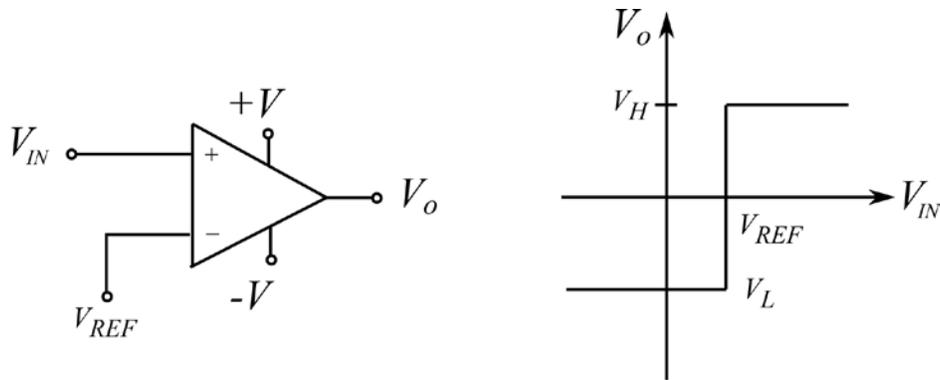

Figure 2: The non-inverting comparator and its transfer characteristic.
A circuit that compares two voltages and indicates which one is larger is extremely useful. This circuit is called a **comparator**, and Figure 2 shows how one can be built using an op-amp. Essentially it is just an op-amp running “open loop” – that is, without any negative feedback. Note that this class of circuit is nonlinear, and different methods are needed for analysis.
1. Breadboard the non-inverting comparator shown in Figure 2. Set $V_{REF} = 0$ (ground) and the power supplies equal to ± 12 volts.